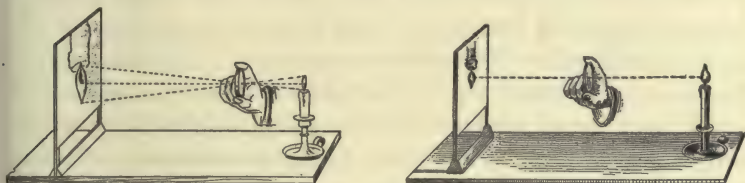

FIG. 130. — The relative sizes of image and object depend upon the position of the lens.
**The value of lenses.** — Place a convex lens near a candle (Fig. 130), and move a paper screen back and forth behind the lens. At some position of the screen, a clear enlarged image is seen. Place the candle in a new position and move the screen